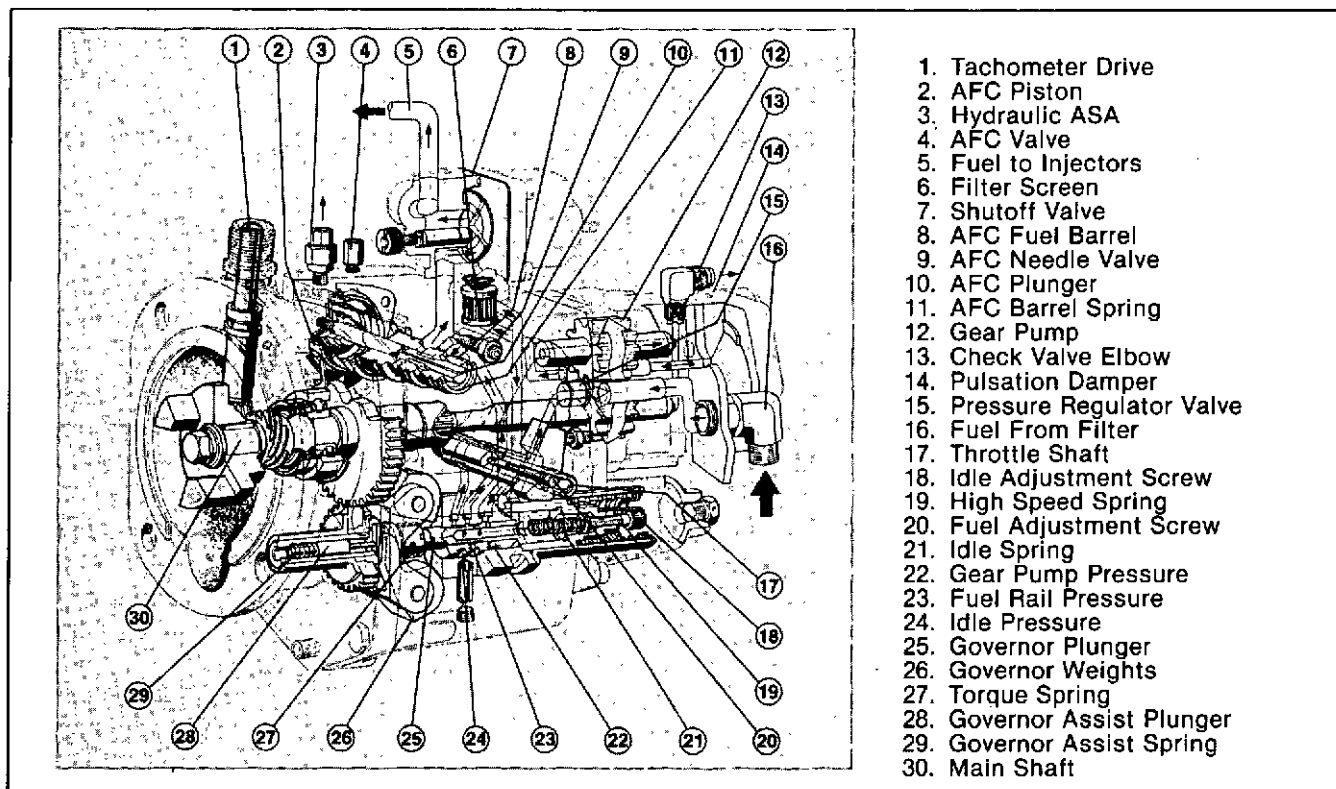

Fig. 15-2, (FWC-37). PT (type G) fuel pump cross-section and fuel flow with the air fuel control.
3. The throttle which is a manual control over the flow to the injectors under all of the conditions in the operation range. The location of the fuel pump parts is in Fig. 15-2.
From the gear pump, the fuel flows through the filter screen and to the governor assembly as shown in Fig. 15-2.